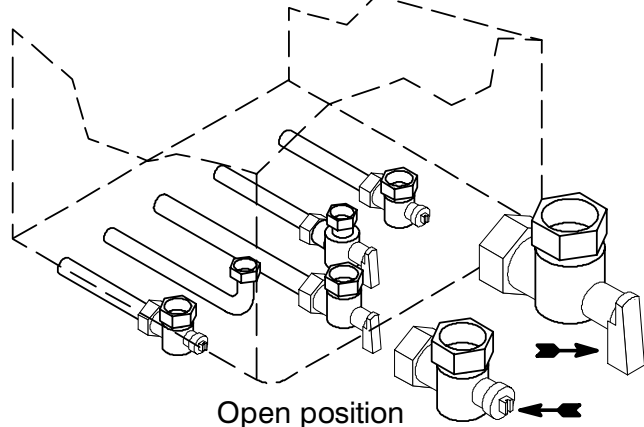

Fig. 2.3
- 1 Check that the valves located in the lower part of the boiler are open (Fig. 2.3).